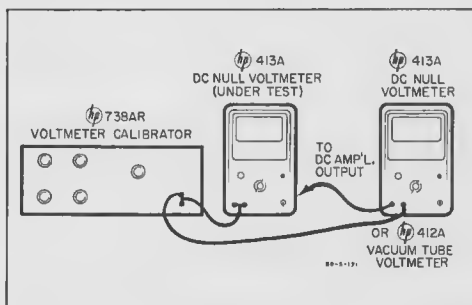

Figure 5-10. Performance Test (Amplifier) Setup
a. Connect a voltmeter calibrator and the accuracy indicator (paragraph 5-37) to the 413A as shown in figure 5-10.